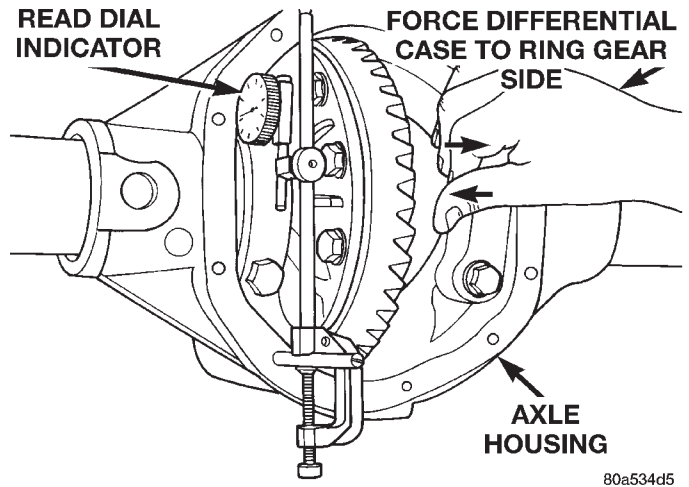

Fig. 67 Hold Differential Case and Read Dial Indicator
- (12) Push and hold differential case to ring gear side of the axle housing (Fig. 67).
- (13) Record dial indicator reading (Fig. 67).
- (14) Add 0.008 in. (0.2 mm) to the zero end play total. This new total represents the thickness of shims to compress, or preload the new bearings when the differential is installed.
- (15) Rotate dial indicator out of the way on the guide stud.
- (16) Remove differential case and dummy bearings from axle housing.